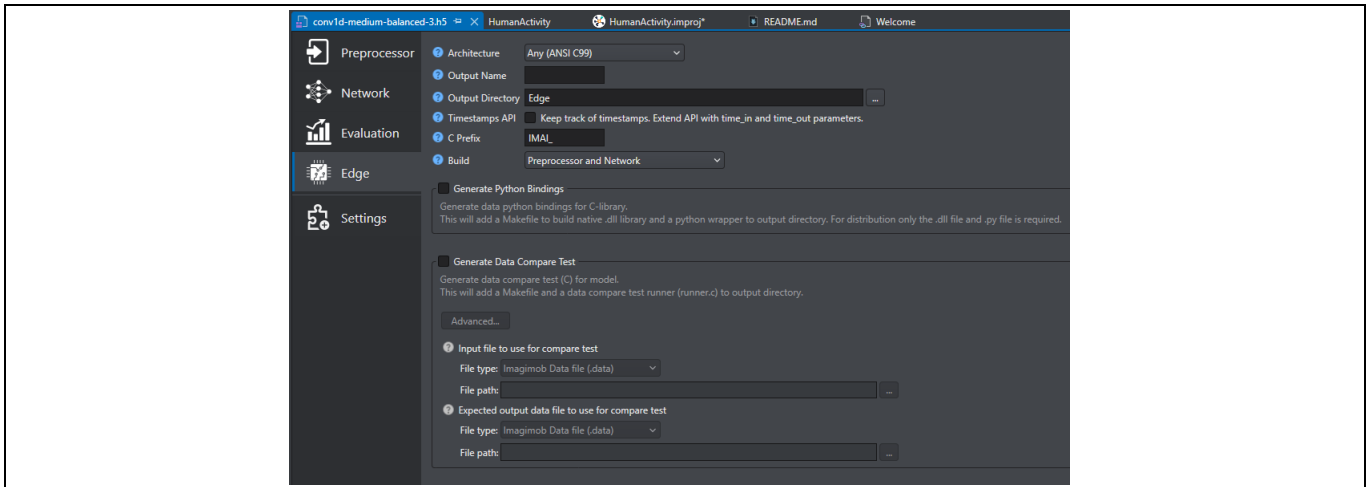

Figure 46 Edge tab
3. This will bring up a new page where the **Preprocessor**, **Network**, **Evaluation**, and **Edge** tabs can be accessed. Select the **Edge** tab to bring up the options shown in Figure 46.